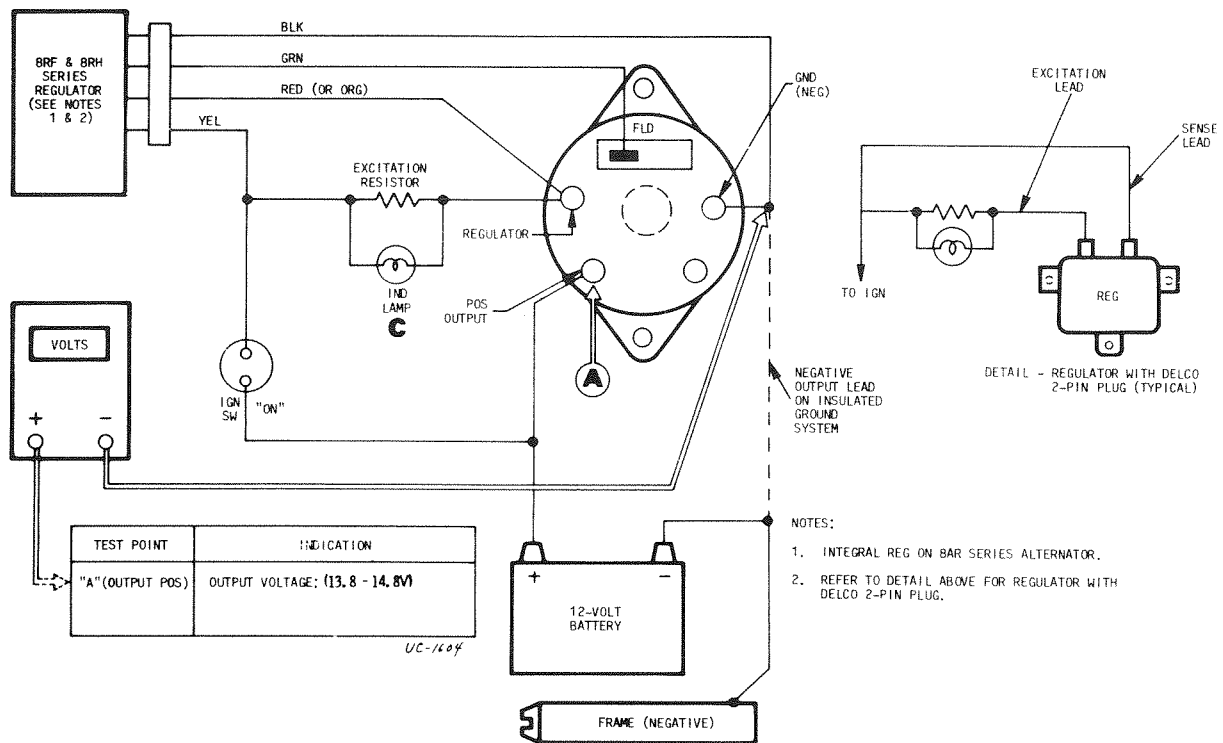

FIG. 3-19 ALTERNATOR OUTPUT TEST
**CONDITIONS:** Engine running at fast idle (after voltmeter is connected as shown in Figure 3-19).